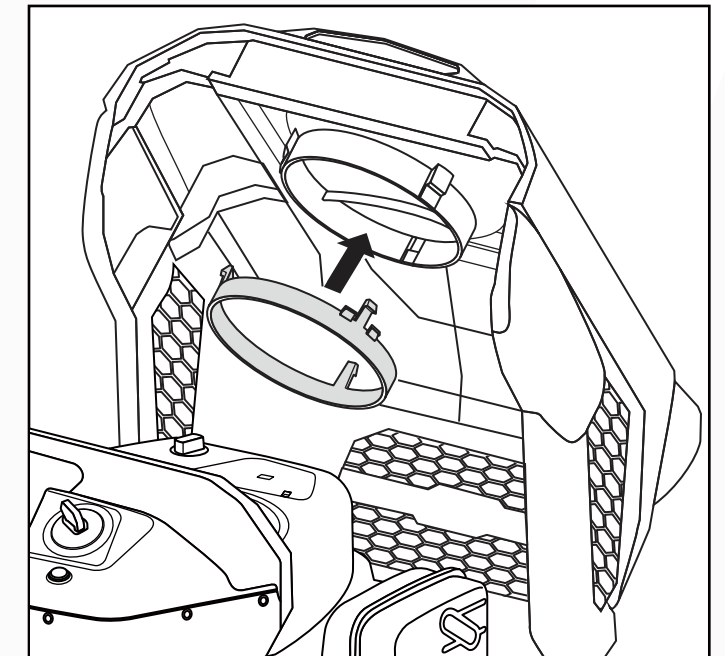

Fig. 3
1. Open the engine shroud and install the air duct ring into the inside of the engine shroud. (Fig. 3)